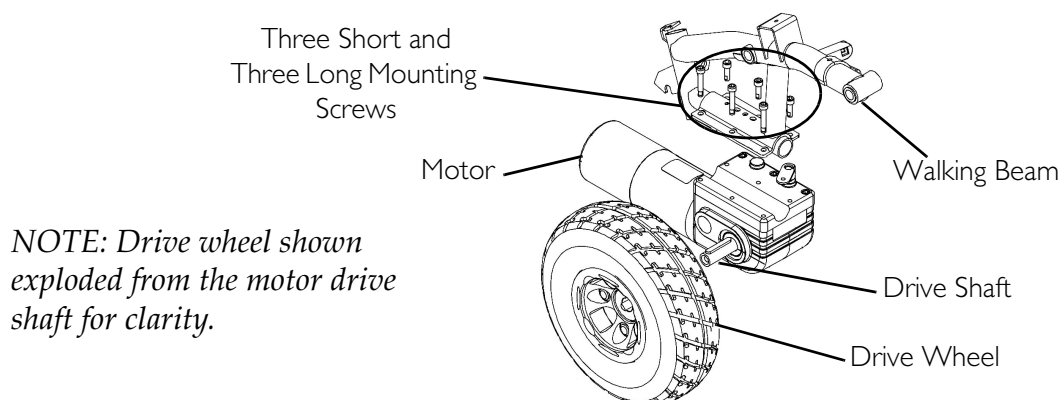

FIGURE 9.1 Removing Motor and Drive wheel
NOTE: For this procedure, refer to FIGURE 9.1 on page 80.
6. Remove the three long mounting screws and three short mounting screws securing the motor to the walking beam (FIGURE 9.1).